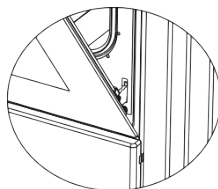

Figure 2.1
5. Lift the door so that it is in contact with the lock of the hinge, as shown in Figure 2.1.